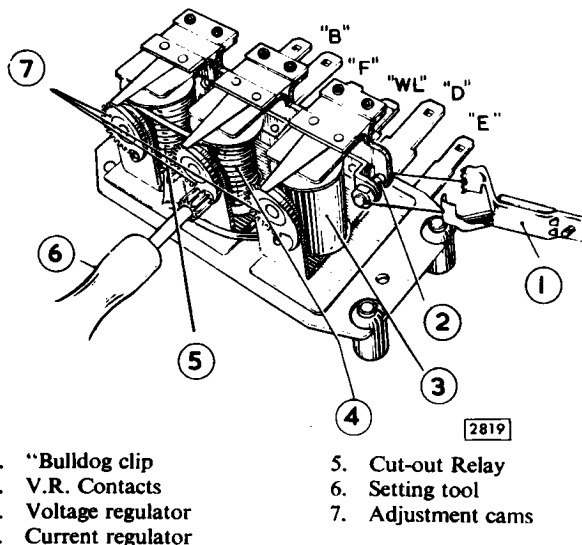

Fig. 64. The cam adjuster on the R.B.340 control box. Note the bulldog clip closing the voltage regulator contacts.
- (ii) Using a bulldog clip, short out the contacts of the voltage regulator. (See Fig. 64).